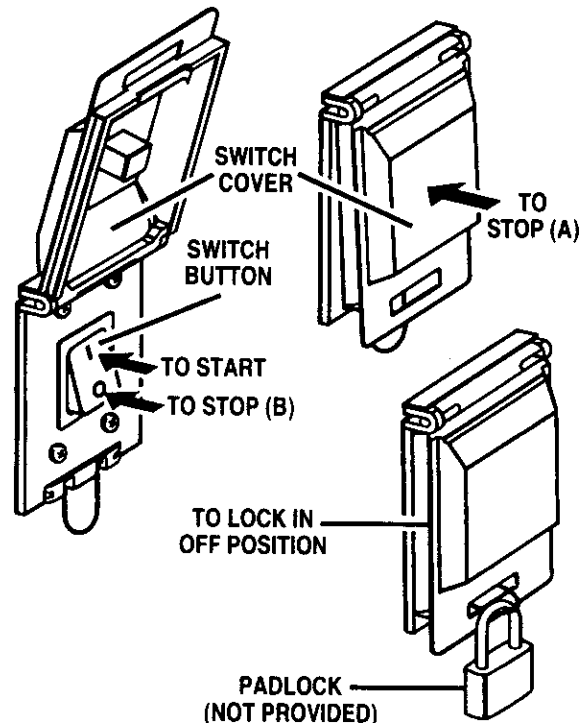

Figure 41
- To turn saw **Off**, (A) press or push outside of switch cover, or (B) lift switch cover and press switch button. See Figure 41.
Note: To prevent unauthorized use, lock your saw in the **Off** position with a padlock as shown in figure 41.